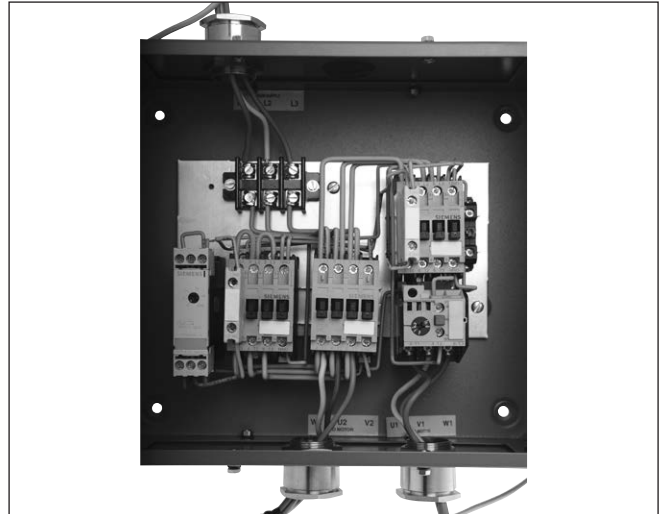

Fig. 2 & 3: Cable Connections
- Connect incoming and outgoing cables as follows (Refer Fig. 2 & 3):